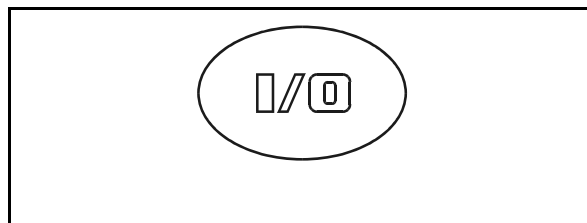

Fig. 6
ON (I) / OFF (O) (Fig. 6). Via this key you switch the **AMATRON+** on and off.